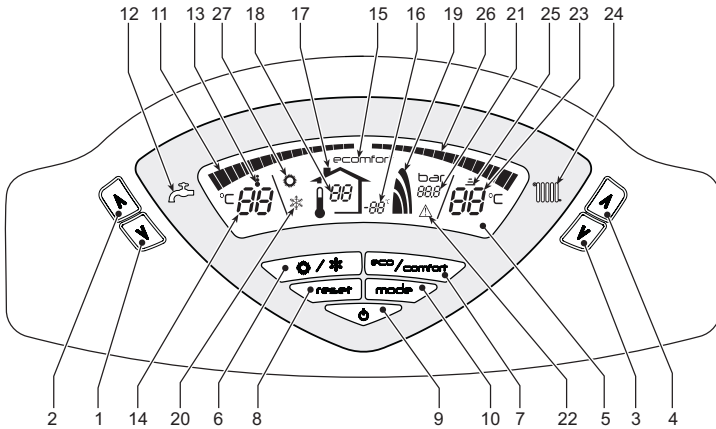
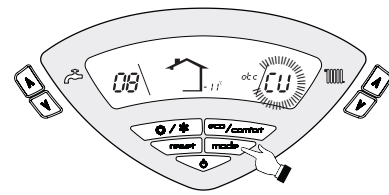

fig. 1 - Control panel
fig. 11 - Compensation curve
A heating demand (generated by the Room Thermostat or Remote Timer Control) is indicated by flashing of the symbol **Heating Mode** (detail 25 - fig. 1).
The heating graduation marks (detail 26 - fig. 1) light up as the heating sensor temperature reaches the set value.
A DHW demand (generated by drawing domestic hot water) is indicated by flashing of the symbol **DHW Mode** (detail 13 - fig. 1). Make sure the Comfort function (detail 15 - fig. 1) is activated
The DHW graduation marks (detail 11 - fig. 1) light up as the DHW sensor temperature reaches the set value.
When hot water tank heating is activated (default setting), the COMFORT symbol (detail 15 - fig. 1) is activated on the display, and when off, the ECO symbol (detail 15 - fig. 1) is activated on the display
The hot water tank can be deactivated by the user (ECO mode) by pressing the **eco/comfort** button (detail 7 - fig. 1) again.
Press the **on/off** button (detail 9 - fig. 1) for 1 second.
To relight the boiler, press the **on/off** button (detail 9 fig. 1) again for 1 second.
- Press the ON/OFF button (9 - fig. 1)
Press the **summer/winter** button (detail 6 - fig. 1) for 1 second.
The display activates the Summer symbol (detail 27 - fig. 1): the boiler will only deliver domestic hot water. The antifreeze system remains activated.
To deactivate the Summer mode, press the **Summer/Winter** button (detail 6 - fig. 1) again for 1 second.
Use the **heating buttons** (detail 3 and 4 - fig. 1) to adjust the temperature from a min. of 30°C to a max. of 85°C.
Use the **DHW buttons** (details 1 and 2 - fig. 1) to adjust the temperature from a min. of 10°C to a max. of 65°C.
When the optional external probe is installed the control panel display (detail 5 - fig. 1) shows the actual outside temperature read by the probe. The boiler control system works with "Sliding Temperature". In this mode, the heating system temperature is controlled according to the outside weather conditions, in order to ensure high comfort and energy efficiency during the entire period of the year. In particular, as the outside temperature increases the system delivery temperature decreases according to a specific "compensation curve".
With Sliding Temperature adjustment, the temperature set with the **heating buttons** (details 3 and 4 - fig. 1) becomes the maximum system delivery temperature. It is advisable to set a maximum value to allow system adjustment throughout its useful operating range.
Press the **mode** button (detail 10 - fig. 1) once to display the actual compensation curve (fig. 11) which can be modified with the **DHW buttons** (details 1 and 2 - fig. 1).